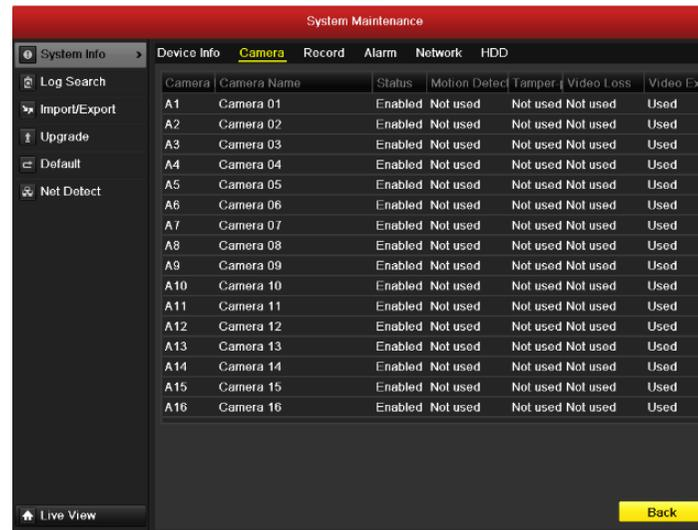

Figure 14.2 Camera Information Interface
2. Click the **Camera** tab to enter the Camera Information menu to view the status of each camera, as shown in Figure 14.2.